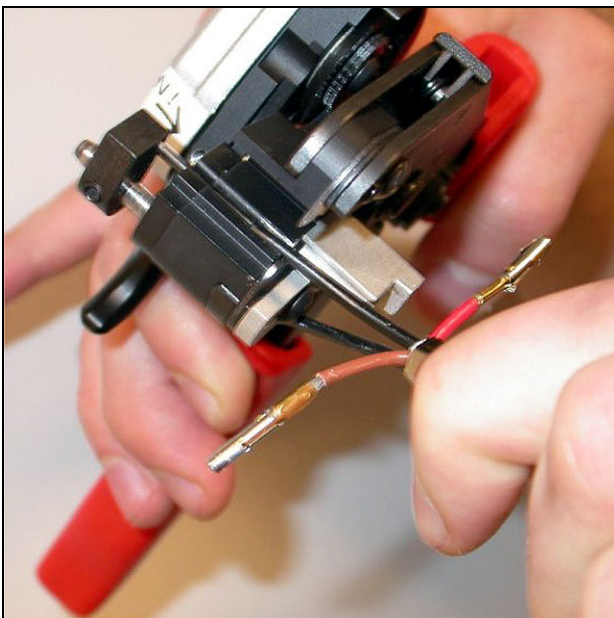

figure 22.19: Stripping a fiber
- 16 Slide one of the fibers into the front part of the POF cutter/stripping tool (tool 6, see figure 22.19).